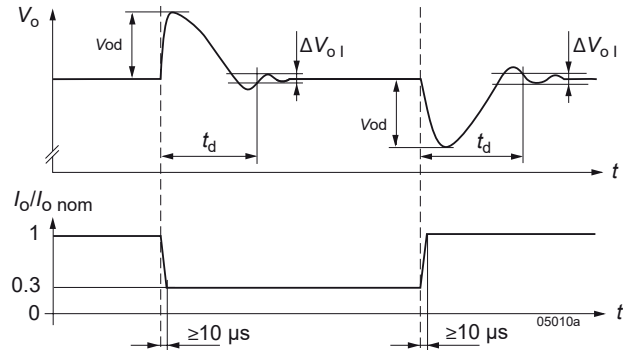

Fig. 5
- Condition for specified output. With multiple-output models, other output(s) loaded with constant current $I_{o,nom}$. See fig. 5 *Dynamic load regulation*.
- Condition for non-specified output, individually tested, other output(s) loaded with constant current $I_{o,nom}$. See fig. 5 *Dynamic load regulation*.